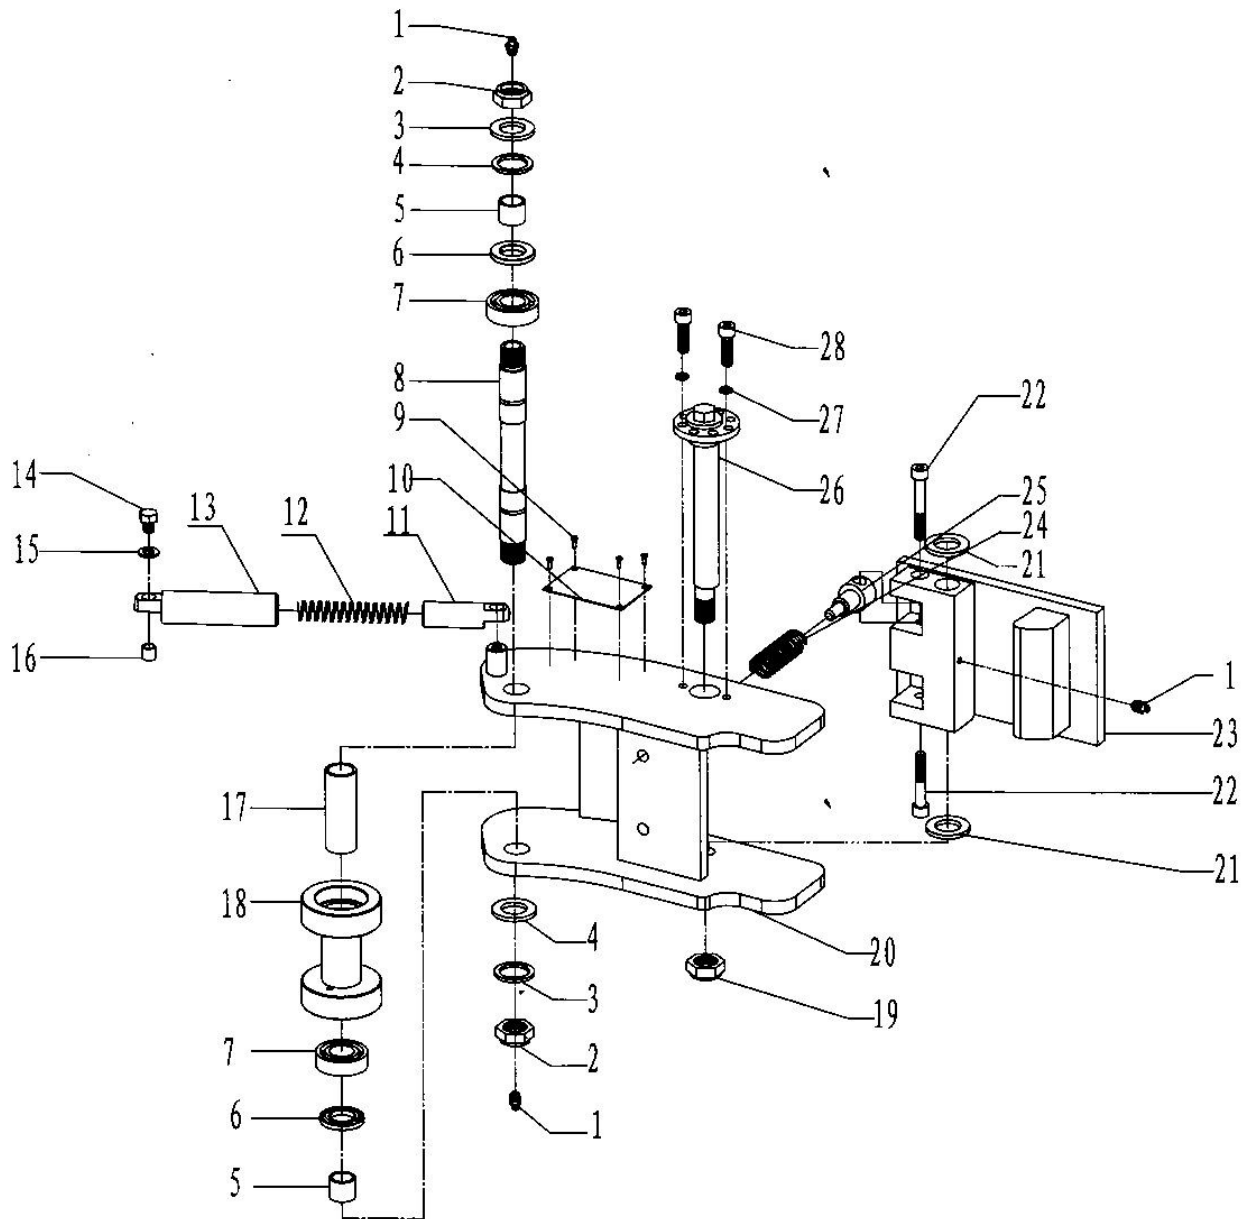

Fig. 10
- Assembly of safety door (Fig10, Table 7)